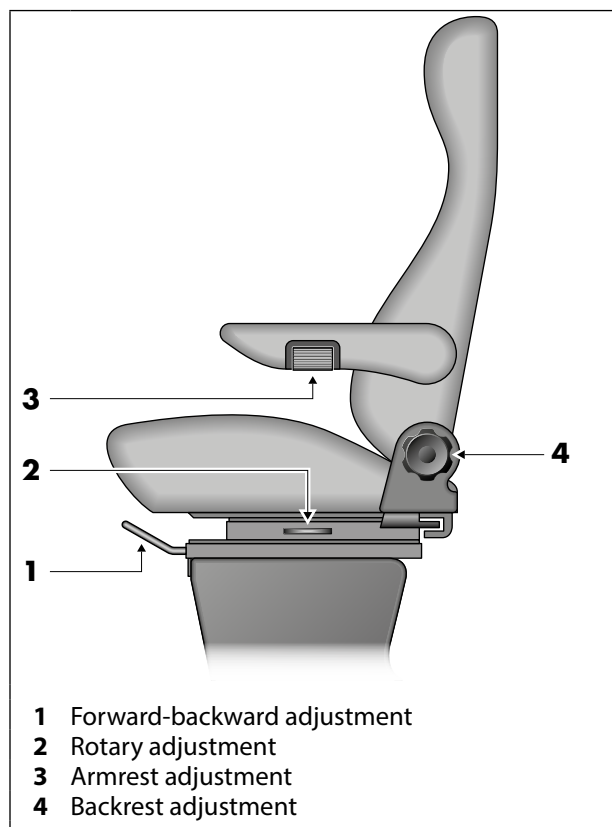

Fig. 1 Control elements on the vehicle seat
1. Pull up and hold unlocking lever (Fig. 1, item 1).
1. Pull up and hold unlocking lever (Fig. 1, item 2).
1. Turn the handwheel (Fig. 1, item 4) backwards or forwards to adjust the backrest backwards or forwards.
2. Use rotary unit (Fig. 1, item 3) to set the armrest height.